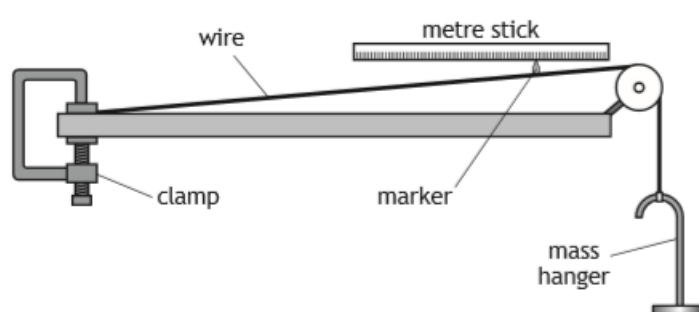

Figure 19
2. A student carries out an experiment to determine Young's modulus for a wire. The experimental set up is shown in Figure 19.